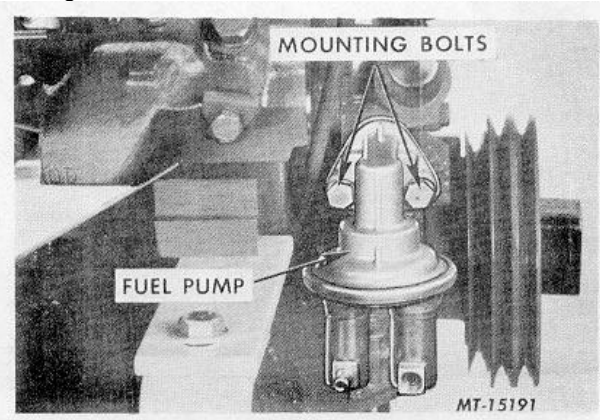

Fig. 23 Removing Fuel Pump from Engine
27. Remove the fuel pump from the engine front cover, Fig. 23.